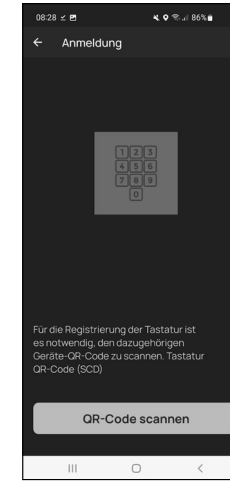

Fig. 7
- A prompt will appear asking you to scan the QR code for the keypad provided using your smartphone camera. The QR code is on the QR code sticker enclosed in the packaging (Fig. 7).
- Tap on "Scan QR code" (Fig. 7). You may be asked to confirm the app's access to the camera.